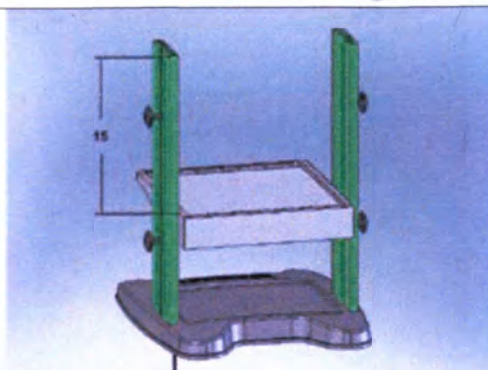

Рисунок 7
7. Align T Nut Fasteners with slots in Extrusions and slide Lower Tray into place. The Lower Tray should be approximately 15 Inches (380 mm) from the top of the Extrusion as shown in figure 7. Tighten the four Socket Head Cap Screws using a 3/16 inch Hex Key to a torque value of 42 in-lbs. (4.9 N-m).